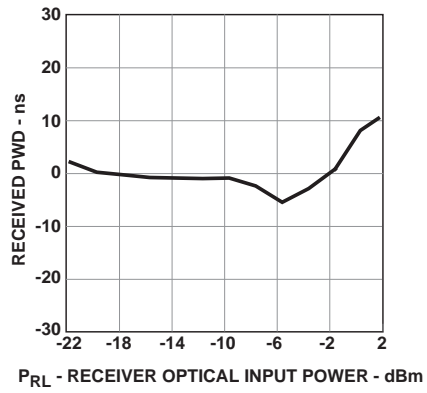

Figure 8. Typical POF receiver pulse width distortion vs. optical power at 10 MBd
- Receiver overdrive ($P_{RL,max}$) is specified as the limit where $|PWD|$ will not exceed 30 ns. The receiver will be in the correct state (logic “0”) for optical powers above $P_{RL,max}$. However, it may not meet a 30% symbol period PWD if the overdrive limit is exceeded. Refer to Figure 8 for PWD performance at high received optical powers.